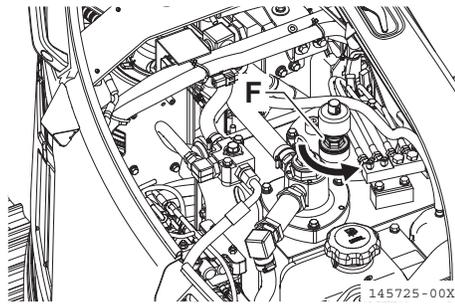

Fig. 3-13
3. If the ball is located below the midpoint, open the front cover (right) and then the supply port cap (**Fig. 3-13, F**) using a tool with a width across flats of 1.18 in. (30 mm), and refill the hydraulic oil. For the quality of the oil to be used, refer to "Fueling, Oiling and Greasing Based on Temperature Range" on page 197.